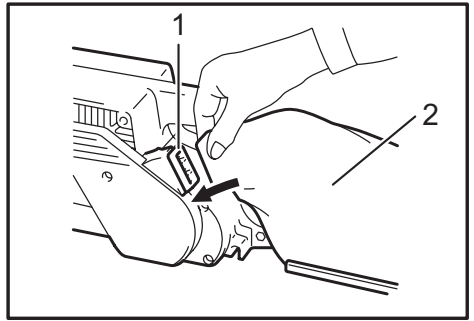

Fig.5
- Fig.5: 1. Dust spout 2. Dust bag